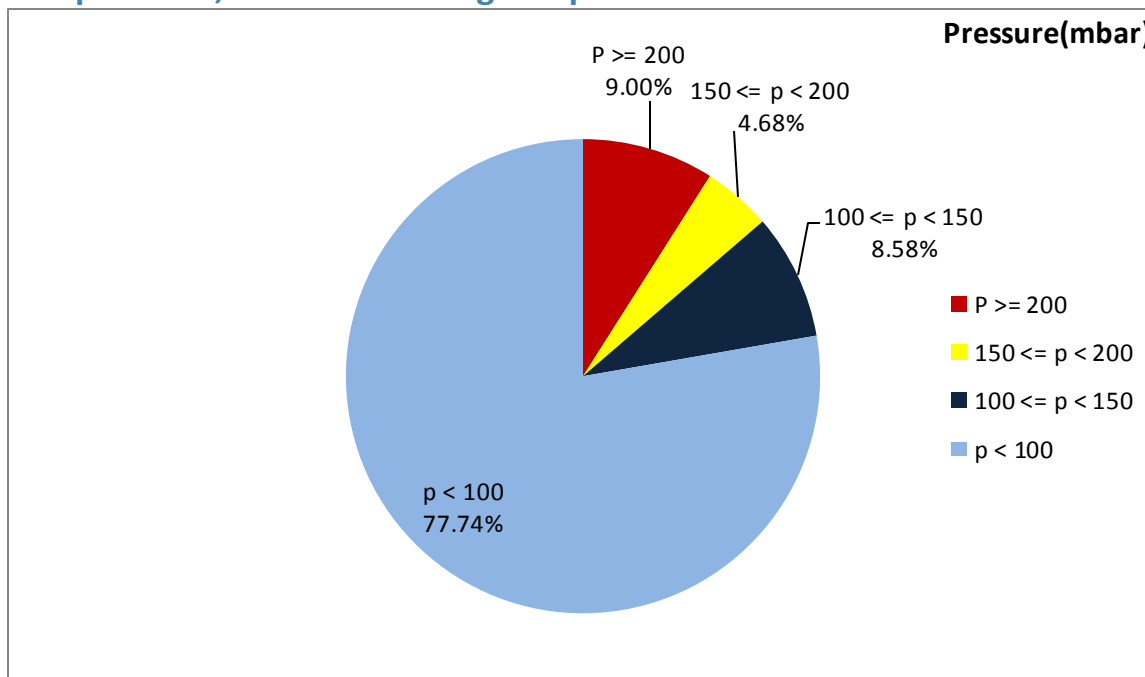

Figure 1- Pressure distribution over the working hours
Notice: Figures 1 to 3 and tables 4 to 6 were calculated considering three days working from Jan 19th to 21st to show DPF performance.
- As depicted in Figure 1, 9% of working time, pressure was above 200 mbar. This high pressure distribution during early three days after DPF cleaning is unacceptable.